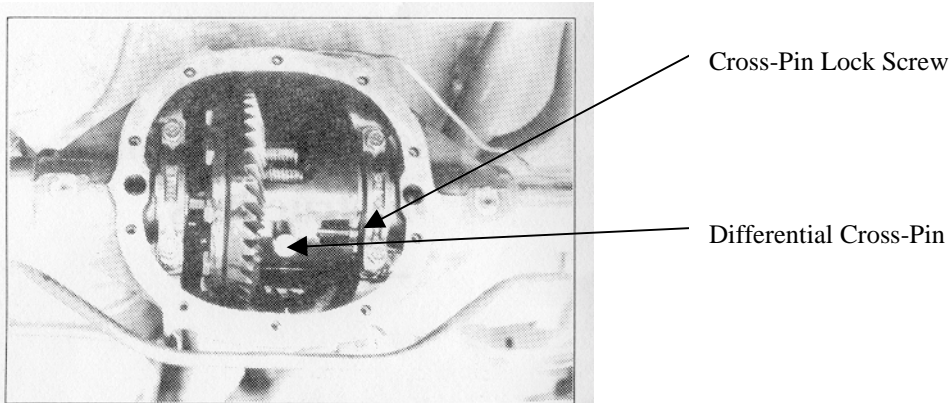

Figure 1 – Differential Cross-pin Lock Screw
2. Remove the differential cross-pin lock screw and remove pin. See Fig. 1. The differential cross-pin may need to be driven out. Use a hammer and a brass drift to drive the differential cross-pin out.